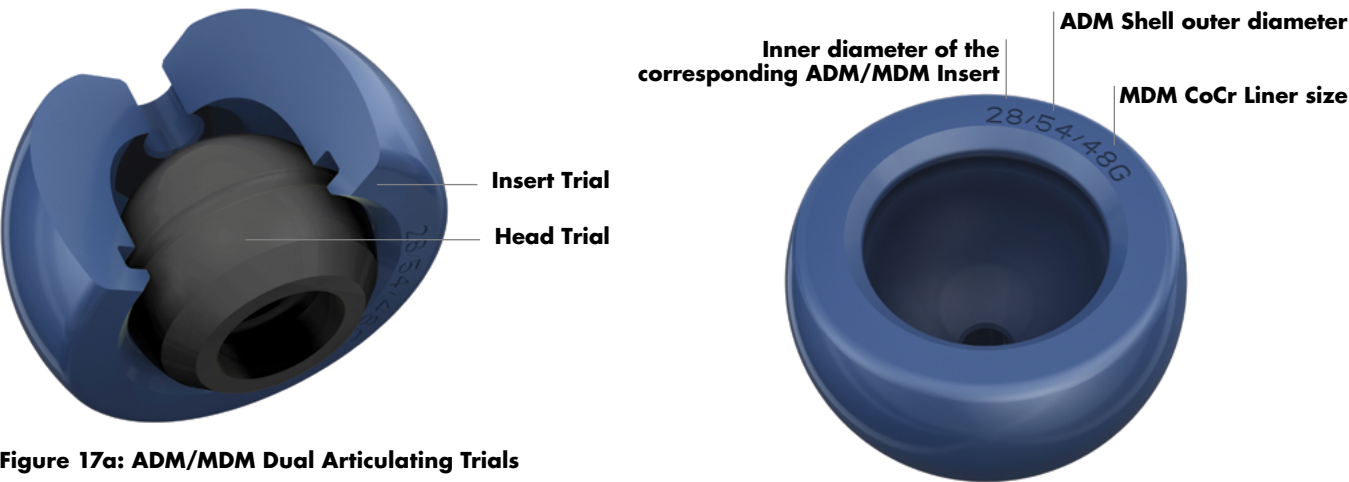

Figure 17a: ADM/MDM Dual Articulating Trials
- If using the ADM/MDM Dual Articulating Trials, place the 22.2mm or 28mm Head Trial into the appropriate Insert Trial to mimic the final articulation function of the MDM System (**Figure 17a**). The size of the Insert Trial will correspond with the MDM Liner being implanted (**Table 7**).